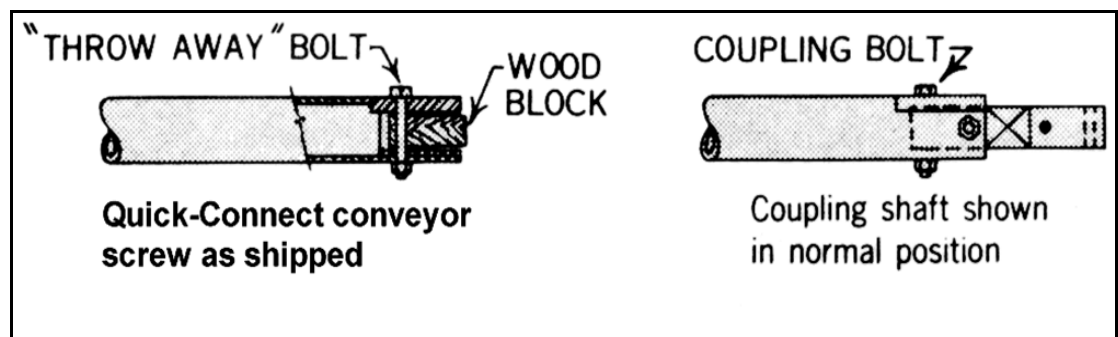

Figure 3.6
3. Remove and discard "throw-away" bolts and wood block (see Figure 3.6). For assembly, use coupling bolts provided.